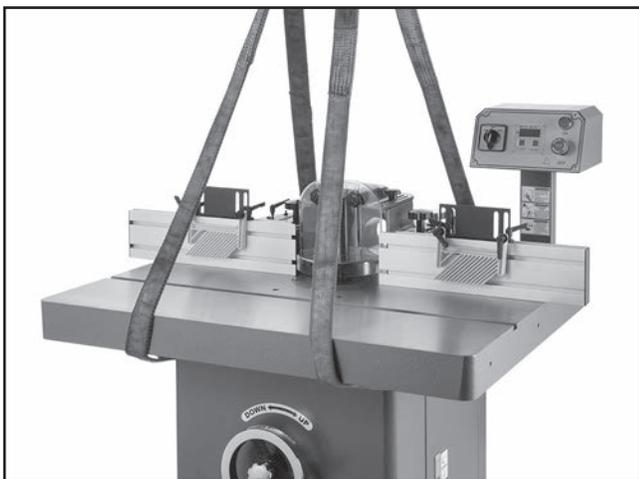

Figure 11. Locations for lifting.
- **Lifting Straps & Safety Hooks:** Connect two safety hooks to chains or web straps that are capable of securely hooking underneath the table edge at the locations shown in **Figure 11**. Then attach the chains or web straps to a center safety chain secured to the power lifting equipment.
- **Forklift Forks:** Position the forks under the table and close to the cabinet (see **Figure 11**). Use cardboard to protect the table and cabinet from the forks.